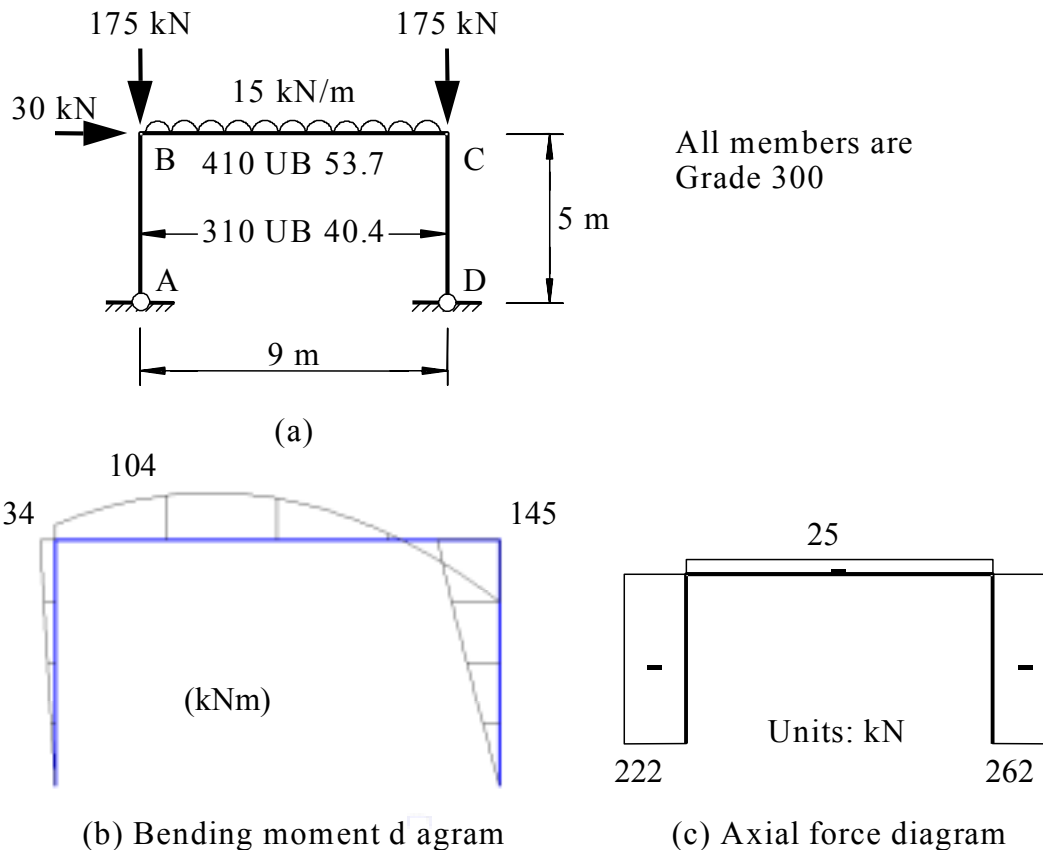

Figure 4
- b) A rectangular portal frame ABCD subjected to a design load combination is shown in Figure 4(a). All members are bent about their major (x) axis in the plane of the frame. The beam column connections are rigid, while the column base plate connections are pinned. The bending moment and axial force diagrams obtained by conducting a *second order elastic analysis* of the frame are shown in Figures 4(b) and 4(c), respectively. Each member of the frame is sufficiently laterally braced such that buckling out of the plane of the frame is prevented.